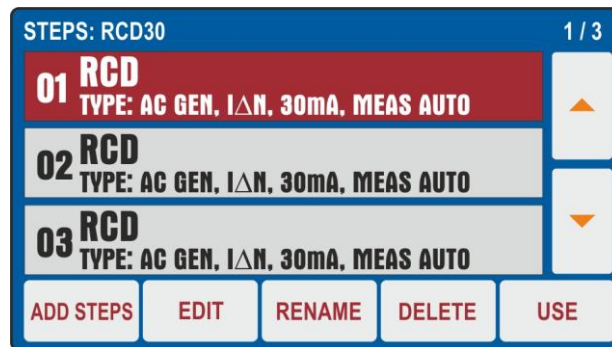

Fig. 20 : AUTOTEST Menu – Including tests inside an Autotest
4. Press the **EDIT** key to open the selected Autotest and include the desired test groups (**max 8 tests**) or to modify an existing one (see § Fig. 20)